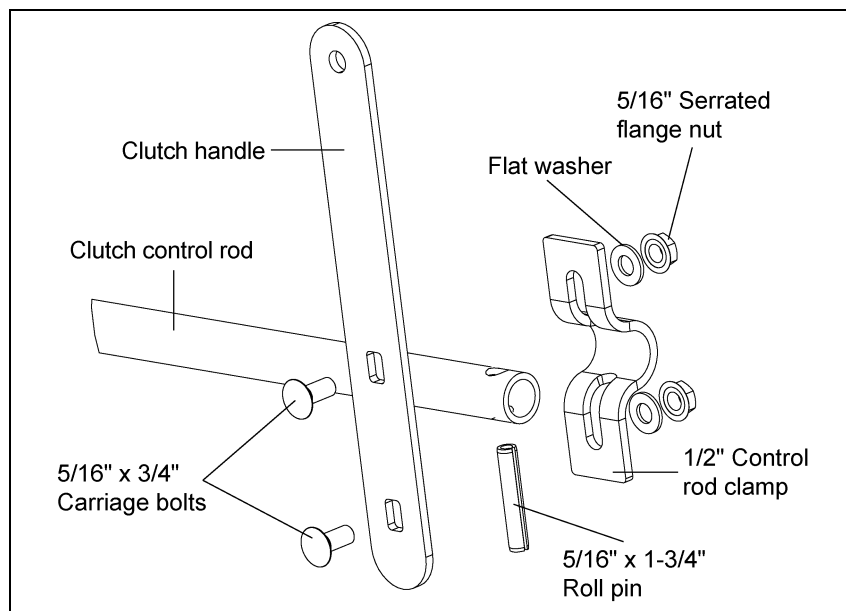

Figure 4T
4. Fasten the clutch handle to the clamp using two (2) 5/16" x 3/4" carriage bolts, flat washers and serrated flange nuts. The short end of the clutch handle should be closest to the bin pad, so as not to interfere with it. Install the nuts so that they secure the roll pin in place. (See Figure 4T.)